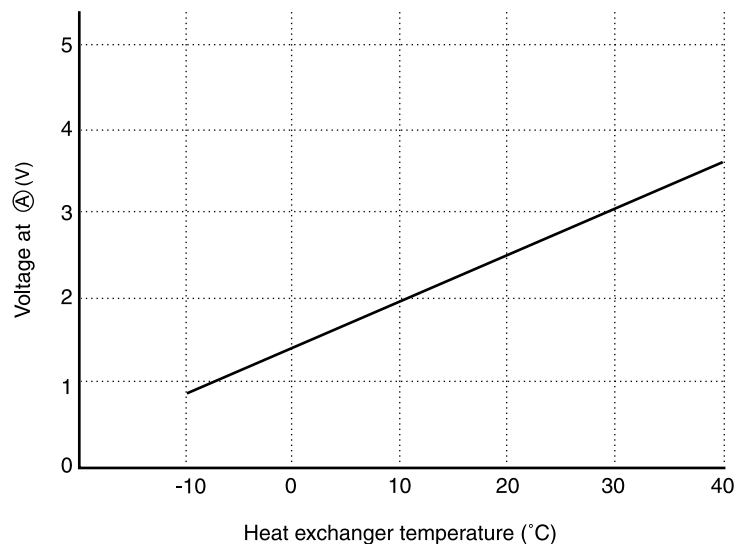

Fig. 6-2
- (1) Preheating.
- (2) Low-temperature defrosting during cooling and dehumidifying operation.
- (3) Detection of the reversing valve non-operation or heat exchanger temperature thermistor open.
The voltage at (A) depends on the heat exchanger temperature as shown in Fig. 6-2.